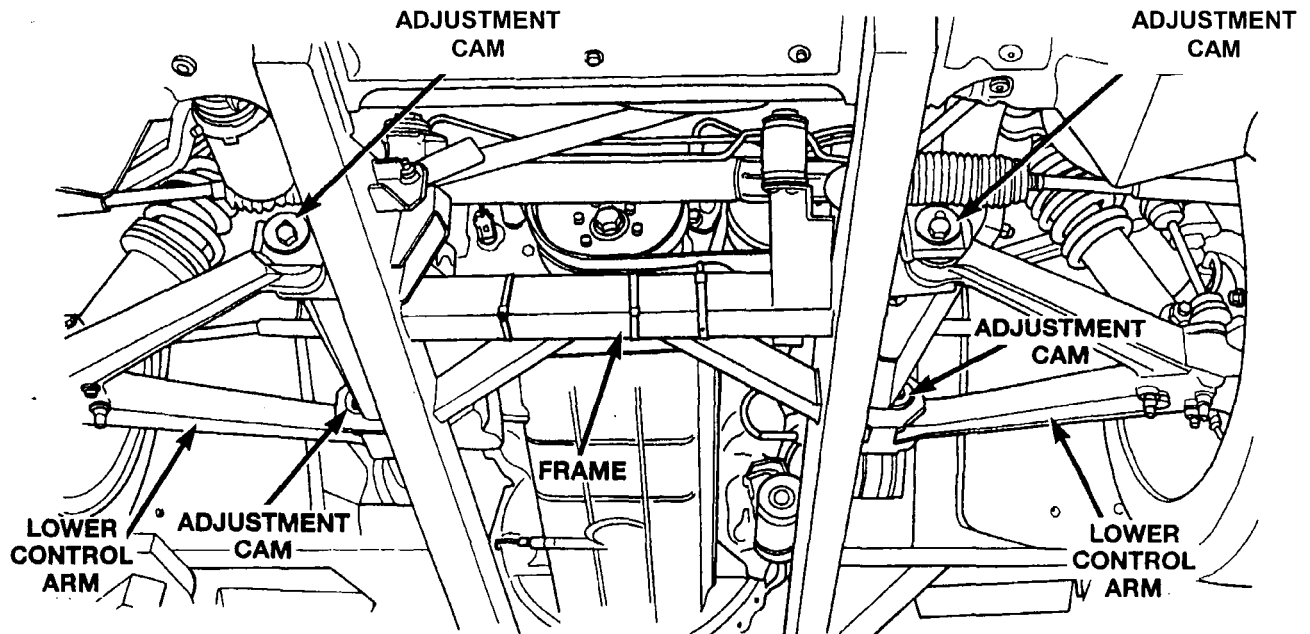

Figure 61
11. Adjust the front caster angle using the measurements viewed on the DRB III screen, and the camber angle using the measurements viewed on the alignment equipment. Camber and caster angles are adjusted by turning the cam bolts on the lower control arm bushings (Figure 61). Refer to the Alignment Specifications Chart on page 69 of this document.